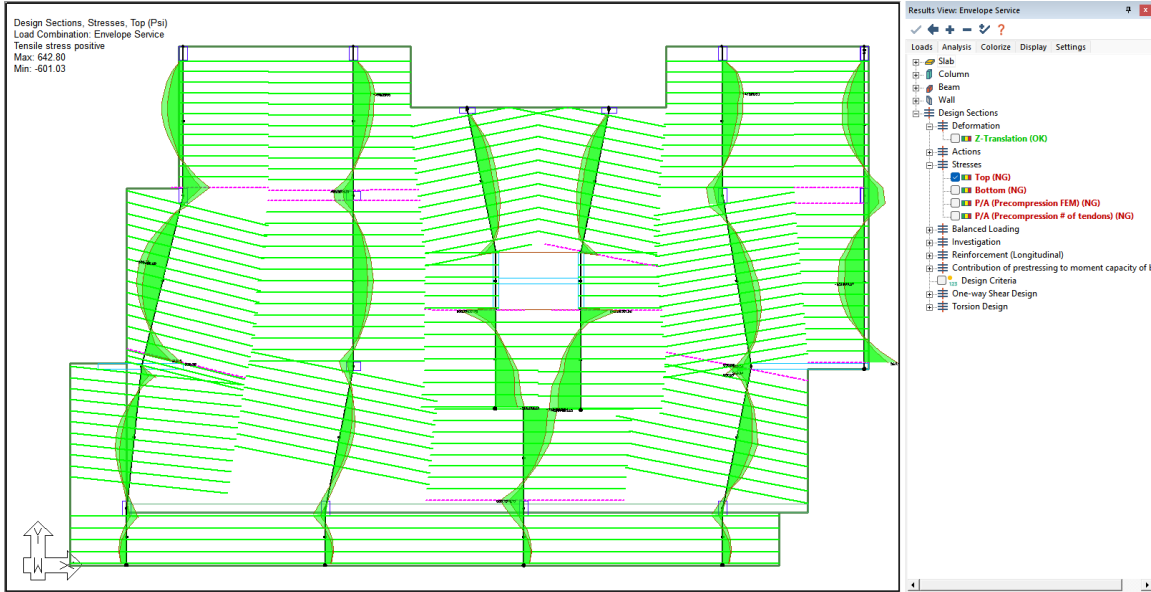

FIGURE 9-94
- The user should now see the top stress values along the Y-direction support lines as shown in **FIGURE 9-94**.